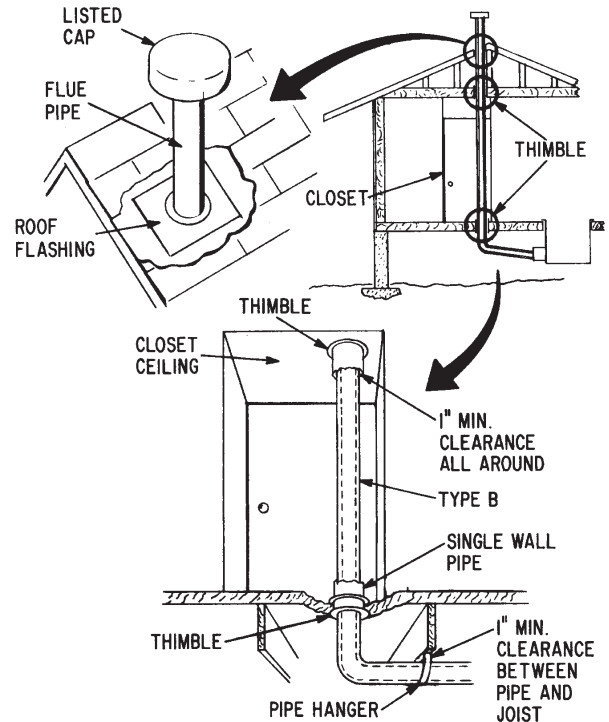

Figure 9
3. If you have decided to go up to the roof through a closet, remember that you **MUST** keep a minimum distance of 1 inch between Type B vent pipe and any combustible material. See Figure 9. Run it through a single wall pipe that is 2 inches larger in diameter than the flue pipe. Use thimbles when going through floor and ceiling and flashing when going through roof.